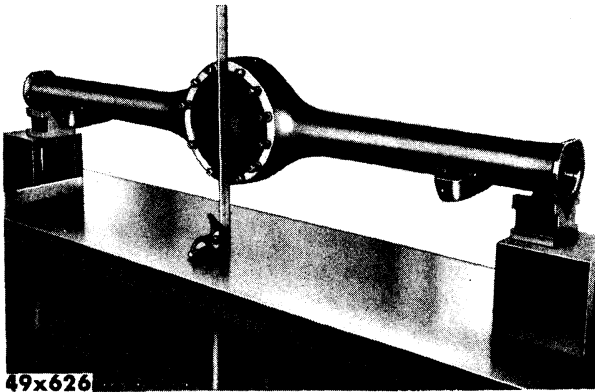

Fig. 51—Squaring Axle for Vertical Alignment
- (1) With housing in "V" blocks, turn housing until machined surface for carrier mounting is in a squared, vertical position, as shown in Figure 51.